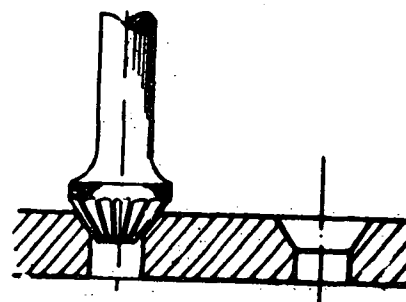

Fig. 3
2) In rivets with countersunk heads a deeper countersink must be made to allow for the placing of the head (Fig. 3).